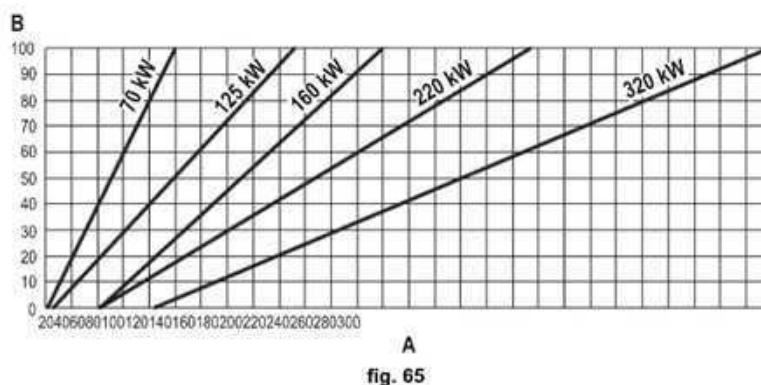

fig. 65
- Press the **contextual buttons 1 and 2** to increase or decrease the heating capacity (minimum = 00 - maximum = 100). See the diagram "Heating Capacity Adjustment" (fig. 65).